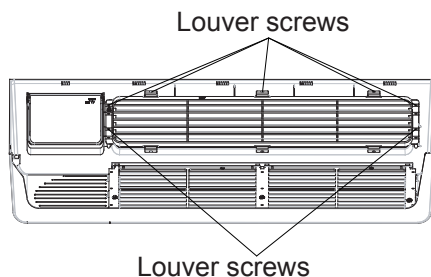

Fig.18-Backside of Front Panel
2. Remove louver screws that hold louver insert in place (from back side of front panel). See Fig. 18.